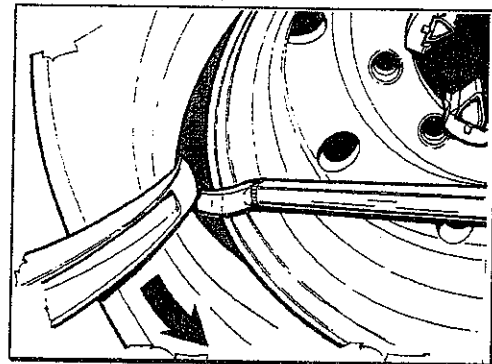

Fig.31
3. Lift the chuck arm enough to clear the hook 2-3 cm (1"-1 1/2") from the rim flange. Move the mount/demount tool towards the outside. This will allow you to place the long bar in between the bead and the rim flange for necessary prying (Fig.31).